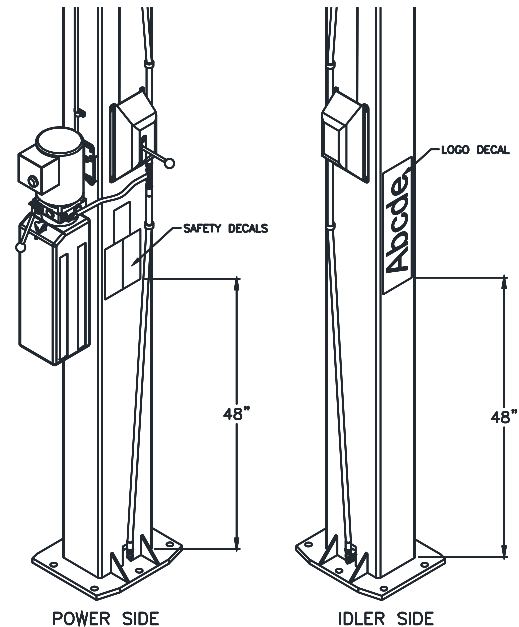

Fig 11 – Safety & Logo Decal Placement
- 39) Apply the Safety Decals (Pg. 3) 48” above the base plate on the power column and the Logo Decal 48” above the base plate on the idler column. **Fig 11.**